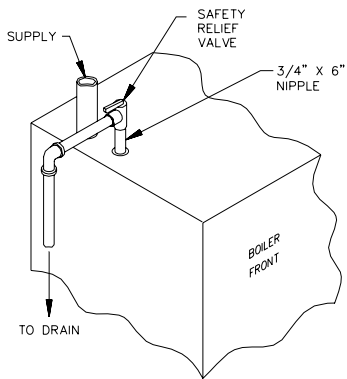

Figure 2: Safety Relief Valve Hook-Up Installation with Air Elimination in System Piping
6. A device which protects the boiler against excessive pressure. The safety relief valve can discharge a large amount of hot water - the installer should provide piping to discharge water near floor at a floor drain. See Figures 2 and 3. If the safety relief valve discharges water, follow instructions TO TURN OFF GAS TO APPLIANCE (see Figure 4), and contact a qualified service agency.